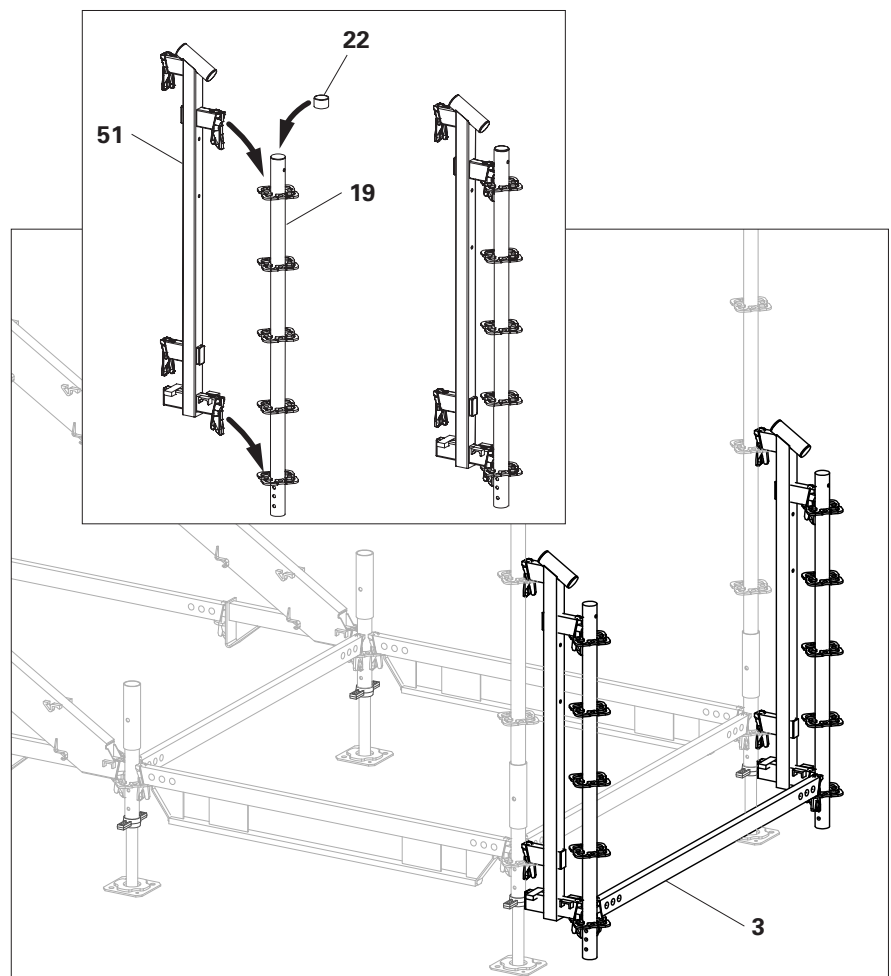

Fig. B1.05
5. Fit Horizontal Ledger UH-2 150 (**3**) as a step support. (Fig. B1.05)